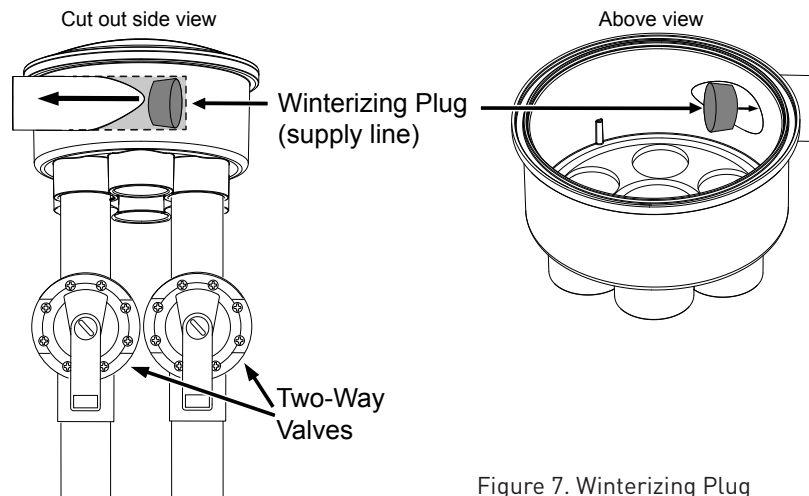

Figure 7. Winterizing Plug
**Heaters:** To compensate for heater system pressure drops, plumb heaters in a bypass line before the water valve, even if the heater has an internal bypass. Perform a temperature rise test to determine where to set the bypass valve (see Figure 7). Ensure proper water flow can be reached.
- Plumb 2-way valves into each discharge line so they can be pressurized to push water below the freeze zone and sealed to prevent water from coming back up into the valve. (See Figure 7)